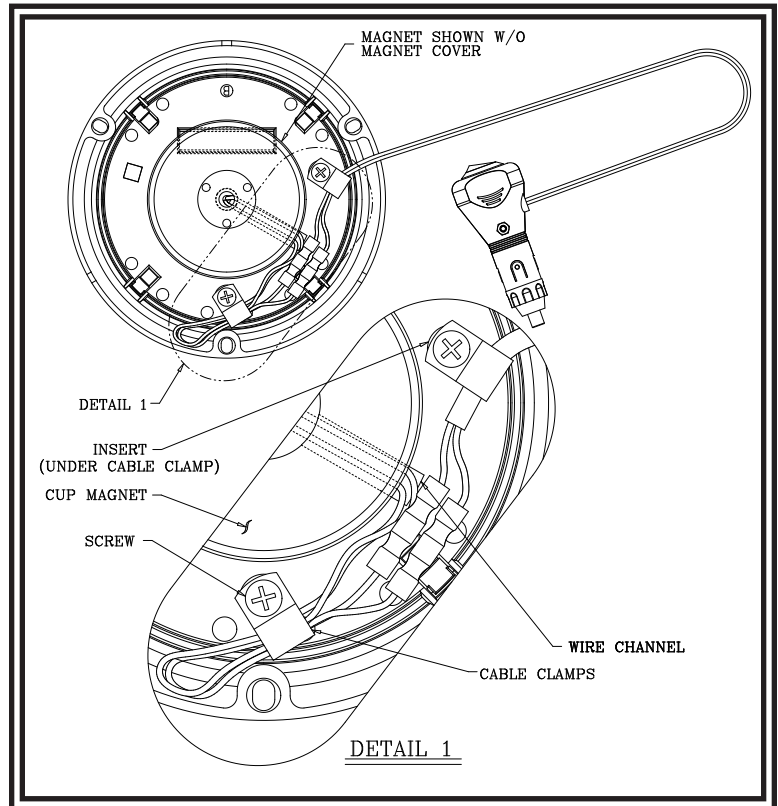

Figure 2
3. Peel off protective paper from other side of adhesive gasket and apply Magnet Assembly to the center of the bottom of the strobe base. For 6600 and 6900 strobes, hold the wires in the wire channel as shown in Figure 2.
4. Strip back lighter adapter cord wires and attach to the strobe power wires, using the supplied butt connectors, the black wire to positive (red) and the black wire with white lettering to negative (black). For 6600 strobes, push the ends of the cord through the cable clamp as shown in Figure 2 prior to connecting to the power wires.
7. Push in the insert nuts in the holes on either side of the wire channel, and using the cable clamps fasten the wires down as shown in Figure 2.